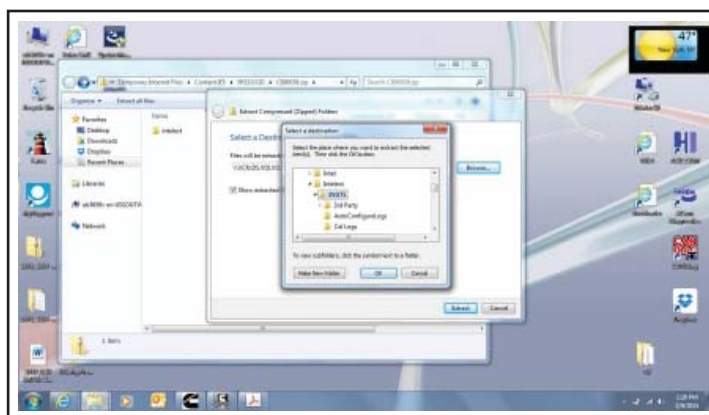

Figure 11 - Selecting INSITE
1.11. Click on INSITE. See Figure 11.